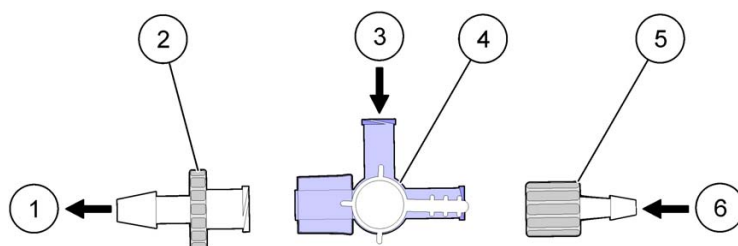

Figure 3 Assembling the 3-way valve and tubing
7. Attach the 3-way luer lock valve to the male and female luer fittings. Hand-tighten, making sure the fittings are snug, but do not over-tighten. Do not use tools on luer-type fittings. Do not attach anything to the center port on the valve at this time. Refer to Figure 3 on page 6.